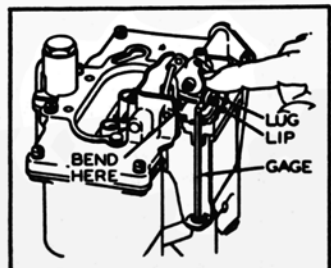

Figure 4
a. Type "A". (See figure 4.) Back out throttle stop screw until throttle valves seat in bores. Insert metering rod gage, furnished in kit, in place of either metering rod. Press down on vacuum piston link (lightly) until metering rod pin rests on end of gage. The lug should just touch (not force) the lip, as shown. Adjust by bending the lip on metering rod arm.